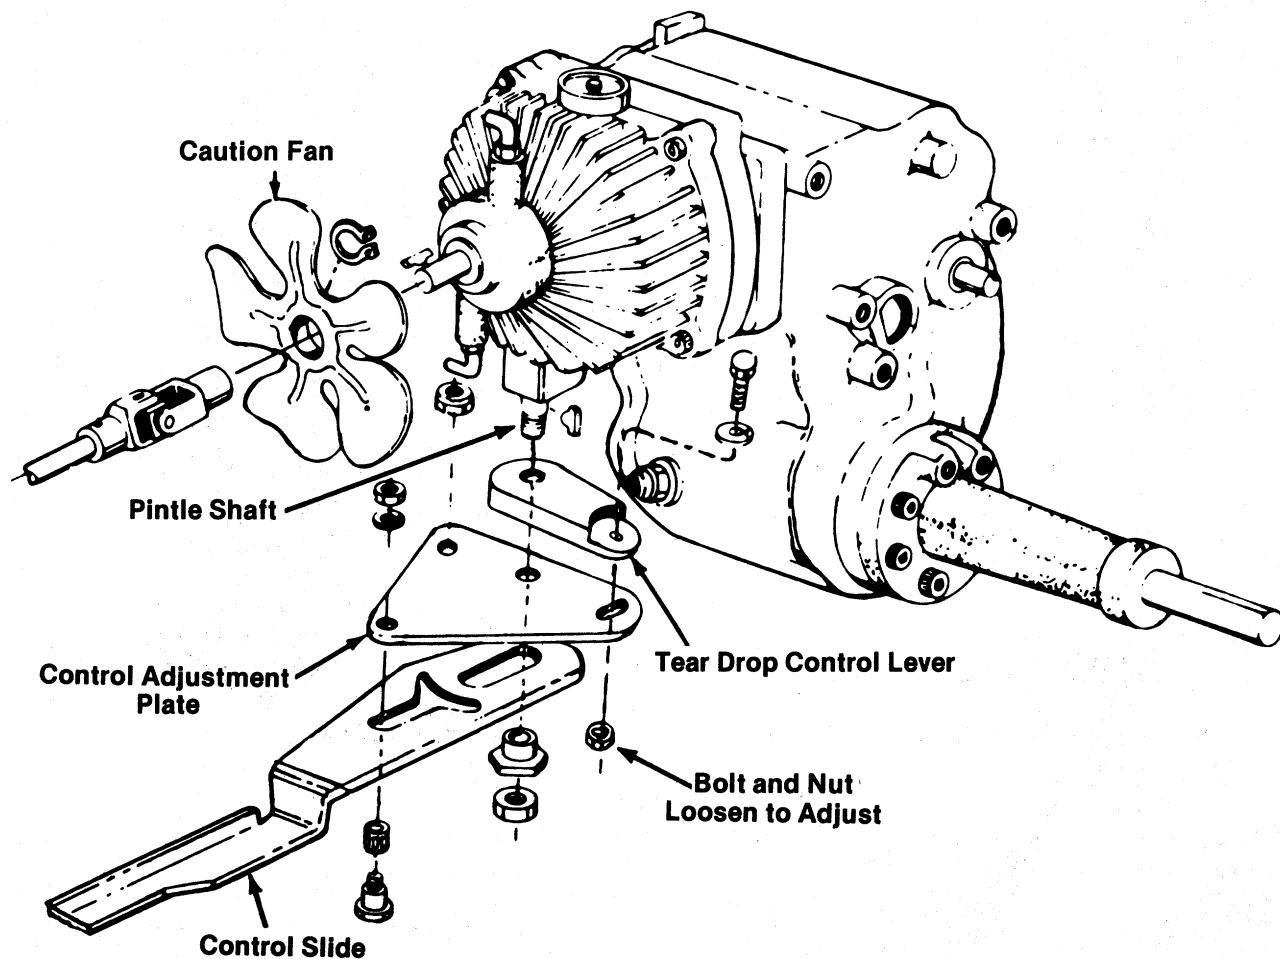

FIGURE 31.
**Hydrostatic Control**—Lubricate between the control slide and the control adjustment plate. (See figure 31.)
7. Loosen the bolt and nut on the control adjustment plate enough to allow the tear drop control lever and the control adjustment plate to move independently of each other. (See figure 31.)